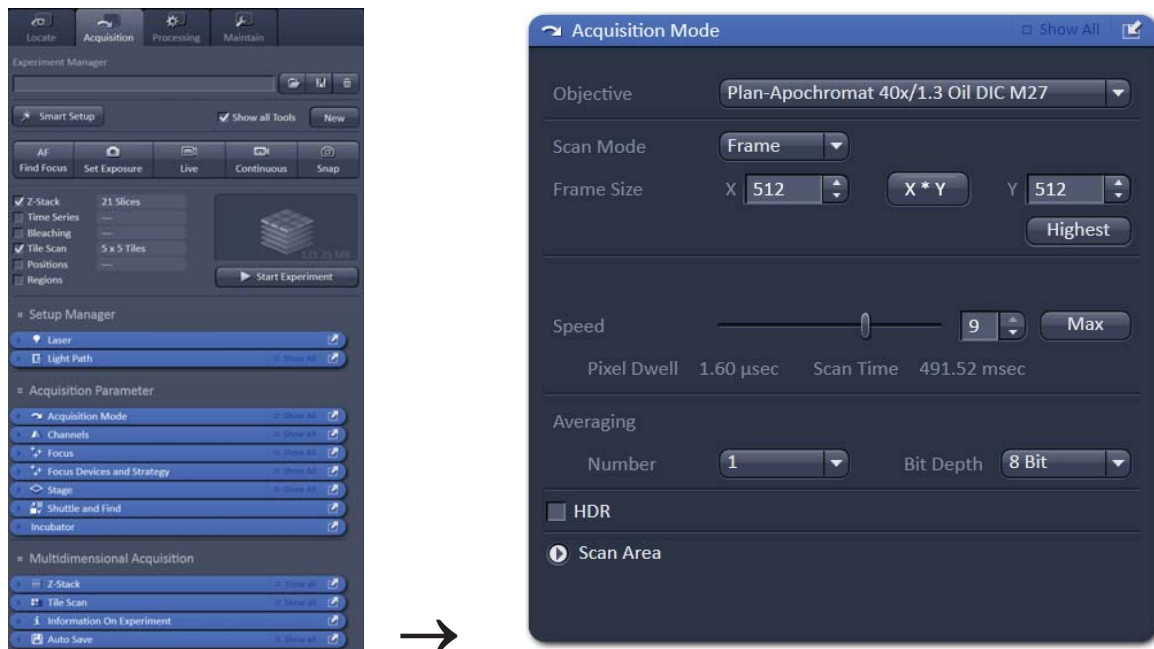

Fig. 20 Acquisition Mode tool
- Select the **Acquisition Mode** tool from the **Left Tool Area** (Fig. 20).
- Use the **Scan Speed** slider in the **Acquisition Mode** tool (Fig. 20) to adjust the scan speed.
- Select the dynamic range 8 or 12 or 16 Bit (per pixel) in the **Bit Depth** pull-down in the **Acquisition Mode** tool (Fig. 20).